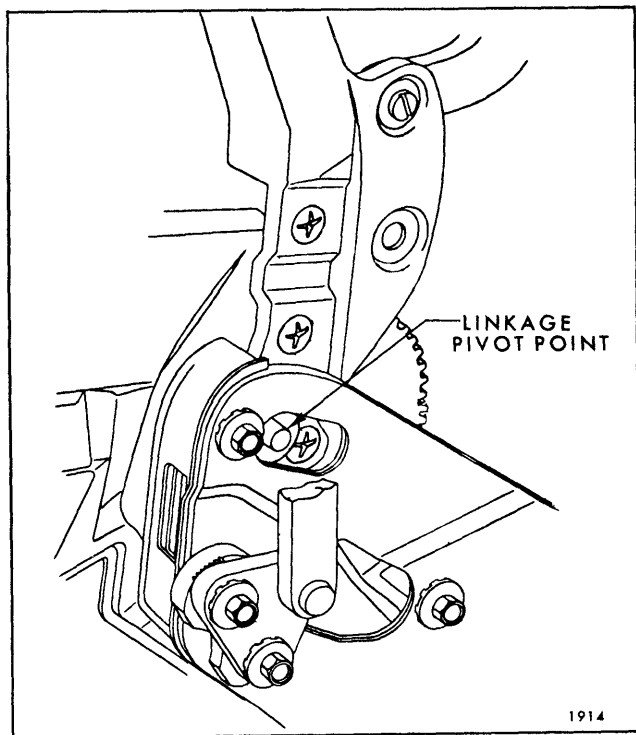

Fig. 13-87—Linkage Pivot Point
- d. Rotate male hinge assembly forward or rearward around linkage pivot point, as required; then tighten attaching bolts (Fig. 13-87).